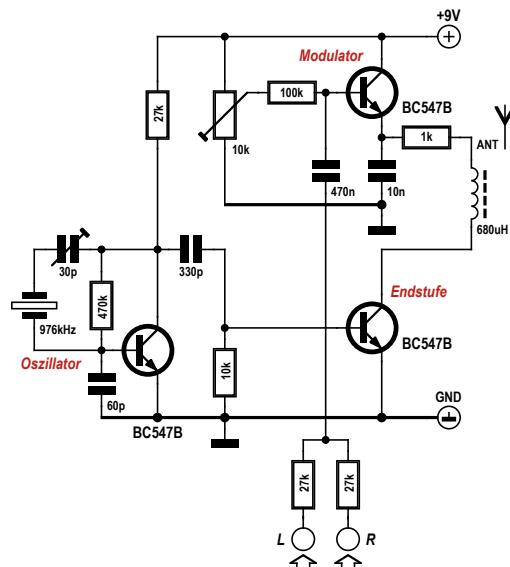

Figure 10. A modulated medium-wave AM signal generator.
**Figure 10** shows the circuit of a complete AM test oscillator. The trimmer can be used for fine tuning. If a broadcast station (most likely weak) can still be heard in the background, you can simply tune the oscillator to a beat frequency that neutralizes the station, such as 981 kHz. The small ferrite coil in the transmitter couples directly to the ferrite rod in the receiver. Incidentally, with relatively minor alterations you can also use this circuit in the short wave region, for example at a frequency of 13.56 MHz, which can be used for experimental purposes without a license.